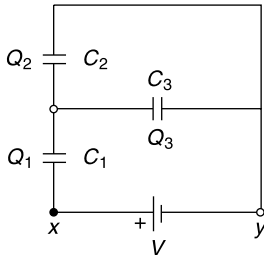

Fig. 2.29 Capacitance configuration
2.17 In Fig. 2.29, a voltage source is connected across a combination of capacitances at terminals (x – y). Find the current supplied by the battery to charge this combination if the time taken to charge is 50 m sec.